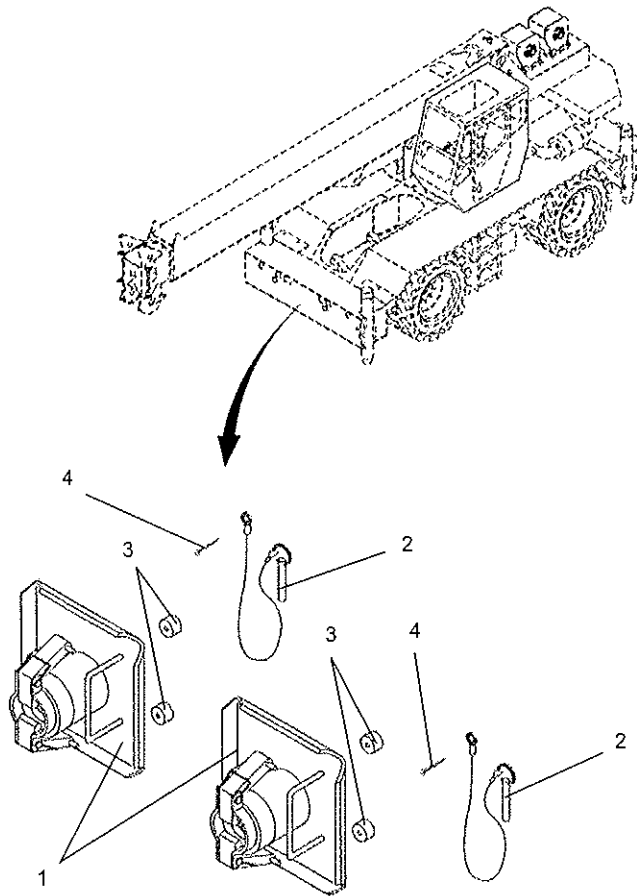

FIGURE 3-6
7. After all outriggers have been fully retracted, stow the outrigger floats(Figure 3-6) .